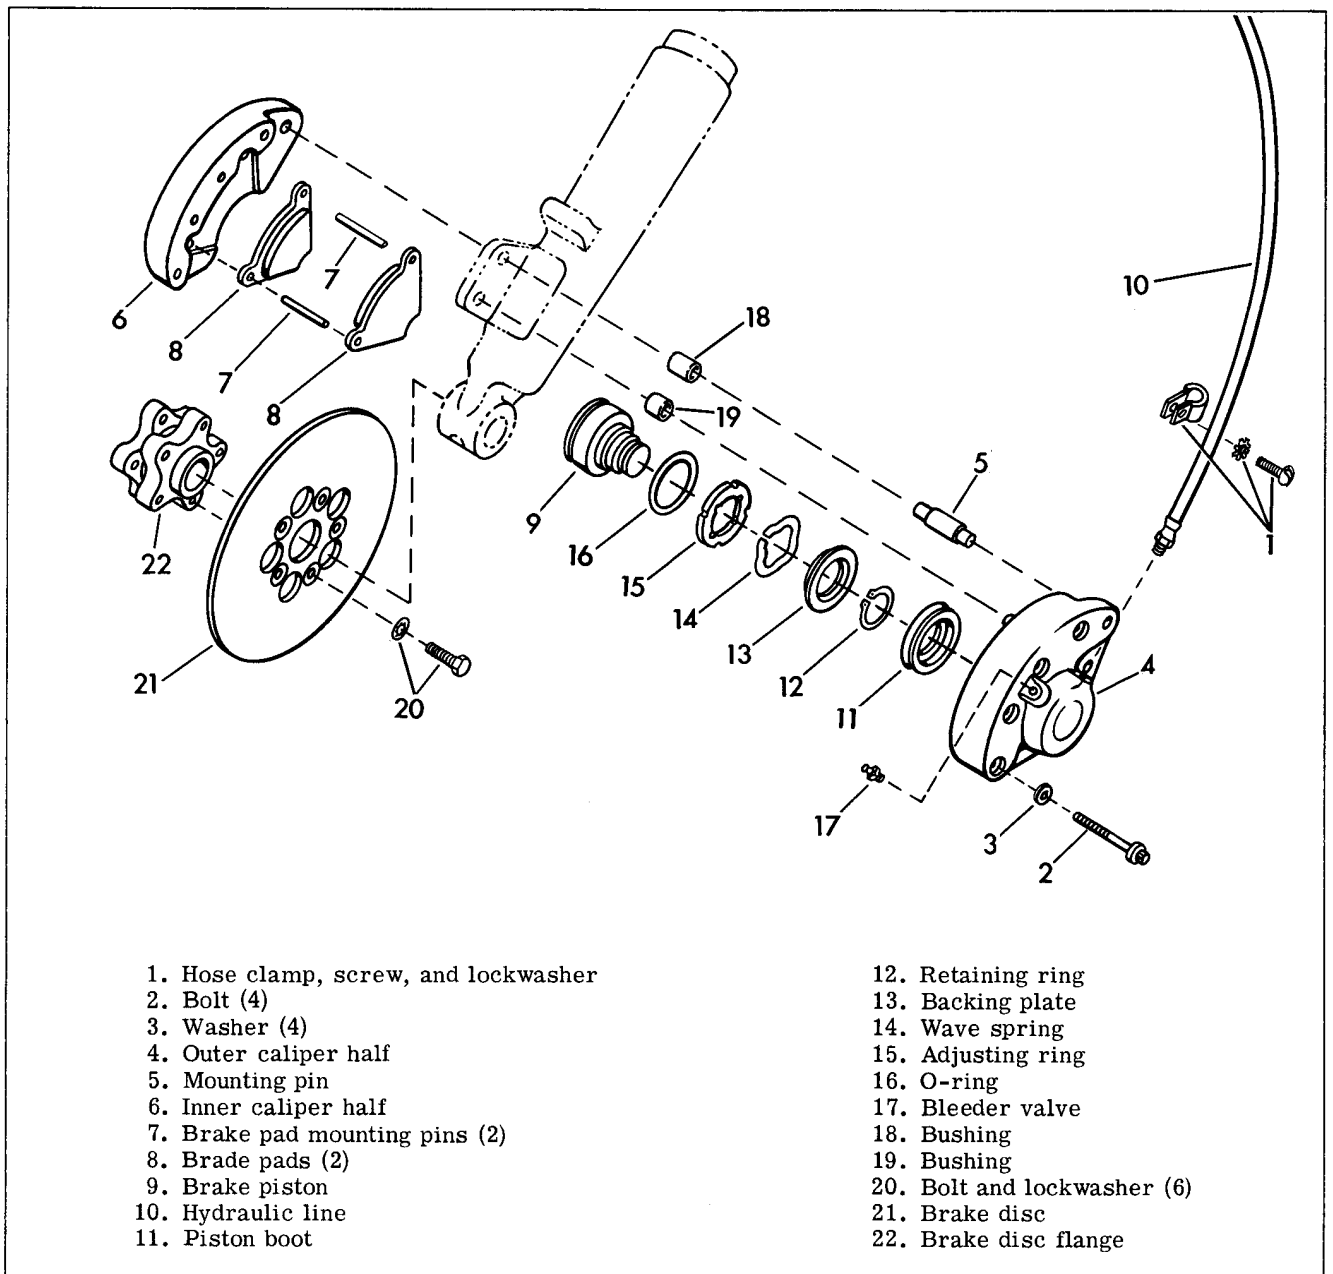

Figure 2-39D. Front Disc Brake, 1972 and Later Electra Glide - Exploded View
#### DISASSEMBLING FRONT DISC BRAKE CALIPERS (Figure 2-39D)
#### REASSEMBLING FRONT DISC BRAKE CALIPERS (Figure 2-39D)
#### REMOVING AND INSTALLING FRONT BRAKE DISC (Figure 2-39D)
2. Slip a length of appropriate size plastic tubing (2) over wheel cylinder bleeder nipple (1, Figure 2-45 or 17, Figure 2-39D) with the other end in any container (3).